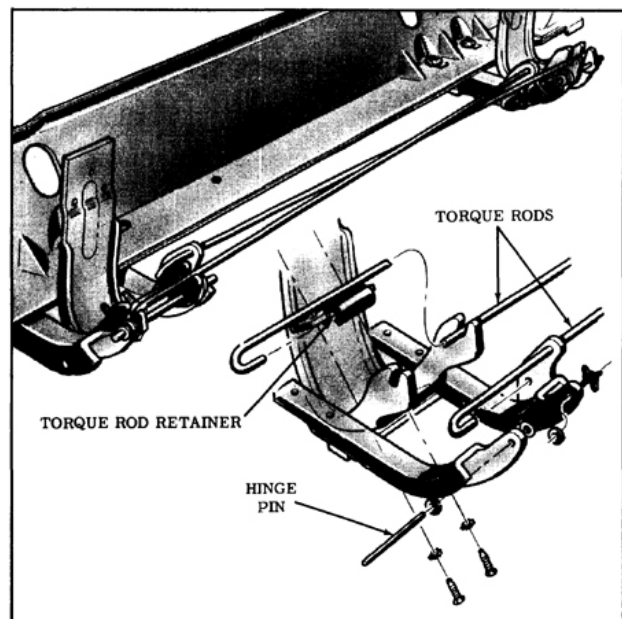

Fig. 16-203 Tailgate Torque Rods
REMOVE AND INSTALL (Fig. 16-203)
To assemble, reverse the removal procedure. Install torque rods as shown in Fig. 16-203.
2. Disconnect torque rods from hinge to be removed. (Fig. 16-203)